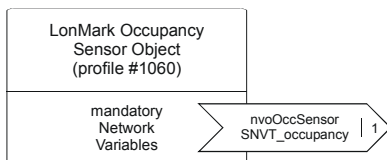

Fig. 6. Occupancy Sensor Object
- one occupancy sensor object (#1060) (see Fig. 6)